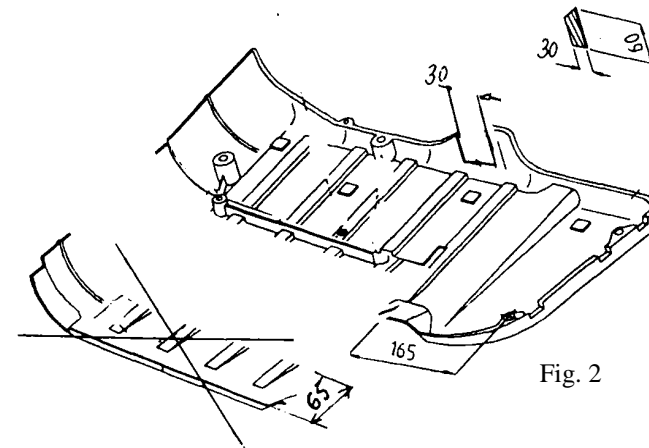

Fig. 2
- Drill again holes only from inside boot using bit $\varnothing 22\text{mm}$. To drilled holes put distance sleeves $\varnothing 22$, $L=37\text{mm}$ (pos. 9), and top put fish-plates (pos. 6) as shown on the drawing. Insert bolts $M10 \times 70\text{mm}$ (pos. 12).
- On prominent bolt put main bar of the towbar (pos. 1) and fix loosely.
- Fix side brackets (pos. 4 and 5) as show on the drawing using bolts $M10 \times 35\text{mm}$ (pos. 13) through holes A. Fix by bolts $M10 \times 35\text{mm}$ (pos. 13) through holes B with jibs (pos. 7 and 8). Jibs place inside chassis frames through longitudinal holes.
- Fix body of the automat (pos. 14) and the socket plate (pos. 3) using bolts $M12 \times 25\text{mm}$ (pos. 11) from accessories. Place tow-ball (pos. 2) according to supplied instruction.
- Reassemble the cover after cut fragment as shown on figure 2.